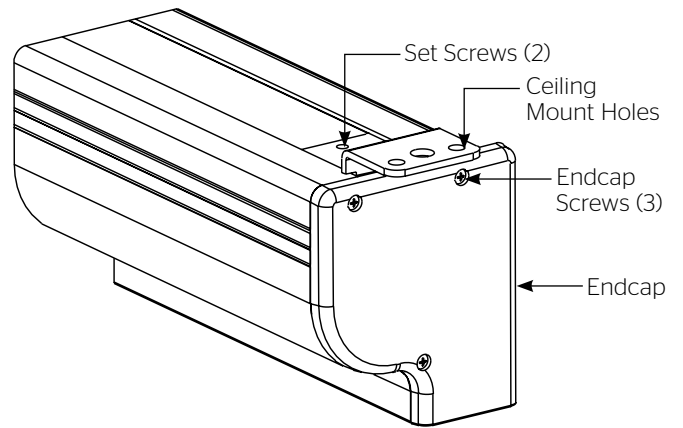

Figure 2
3. The top of the screen case has a channel that the ceiling mount brackets slide into. Remove the end cap on the right end of the case and insert the brackets into the case channel. Lock the brackets in place by tightening two set screws. Refer to figure 2. Mount cannot be more than 12" from end of case.